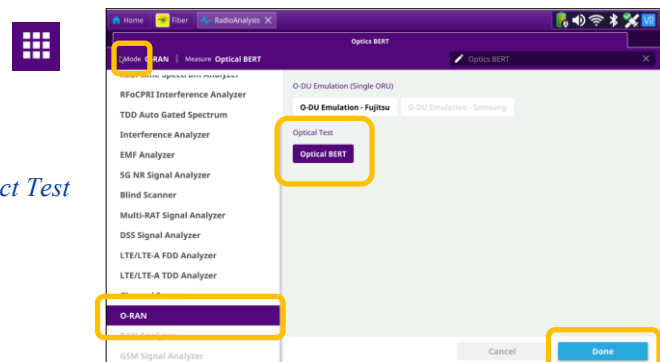

Figure 3: Select Test
- Or if already in the Radio Analysis 6 GHz application, access the Mode button , O-RAN and Optical BERT and press Done (figure 3)